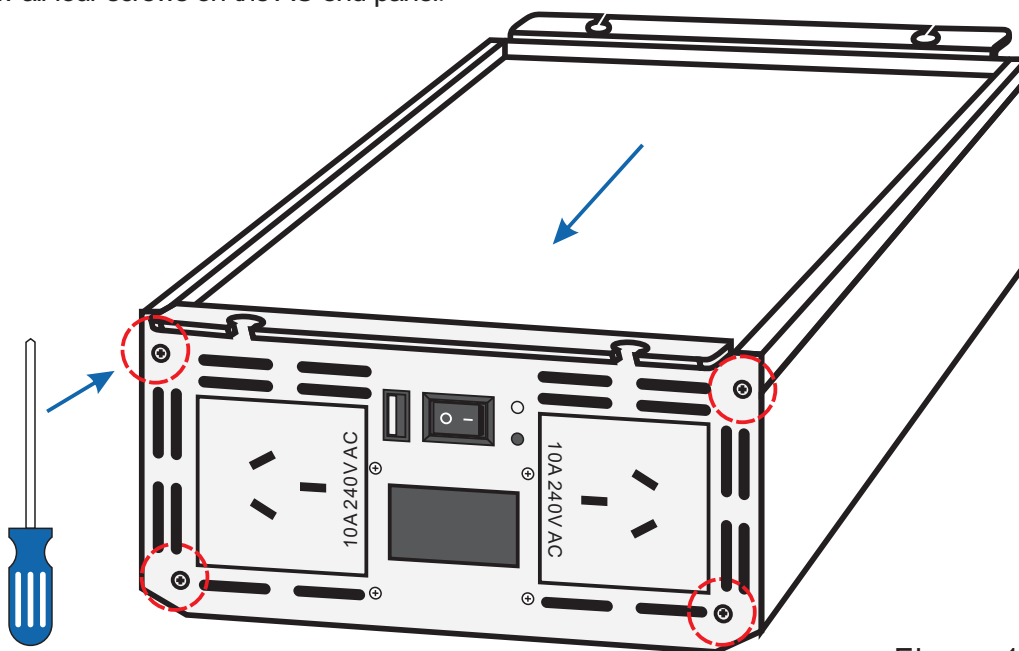

Figure 1.
3. Remove all four screws on the AC end panel and push the power switch in the “O” position(see Figure 1.).
4. Slide out the bottom plate to the direction of the AC end panel(see Figure 1.).